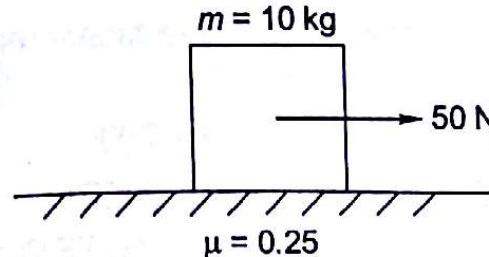

Fig. 19.17
19.1 A block of mass 10 kg is placed on a rough horizontal floor as shown in Fig. 19.17. A force of 50 N is applied on block and block covers a distance of 10 m. μ between block and floor is 0.25, what is the velocity gained by block?